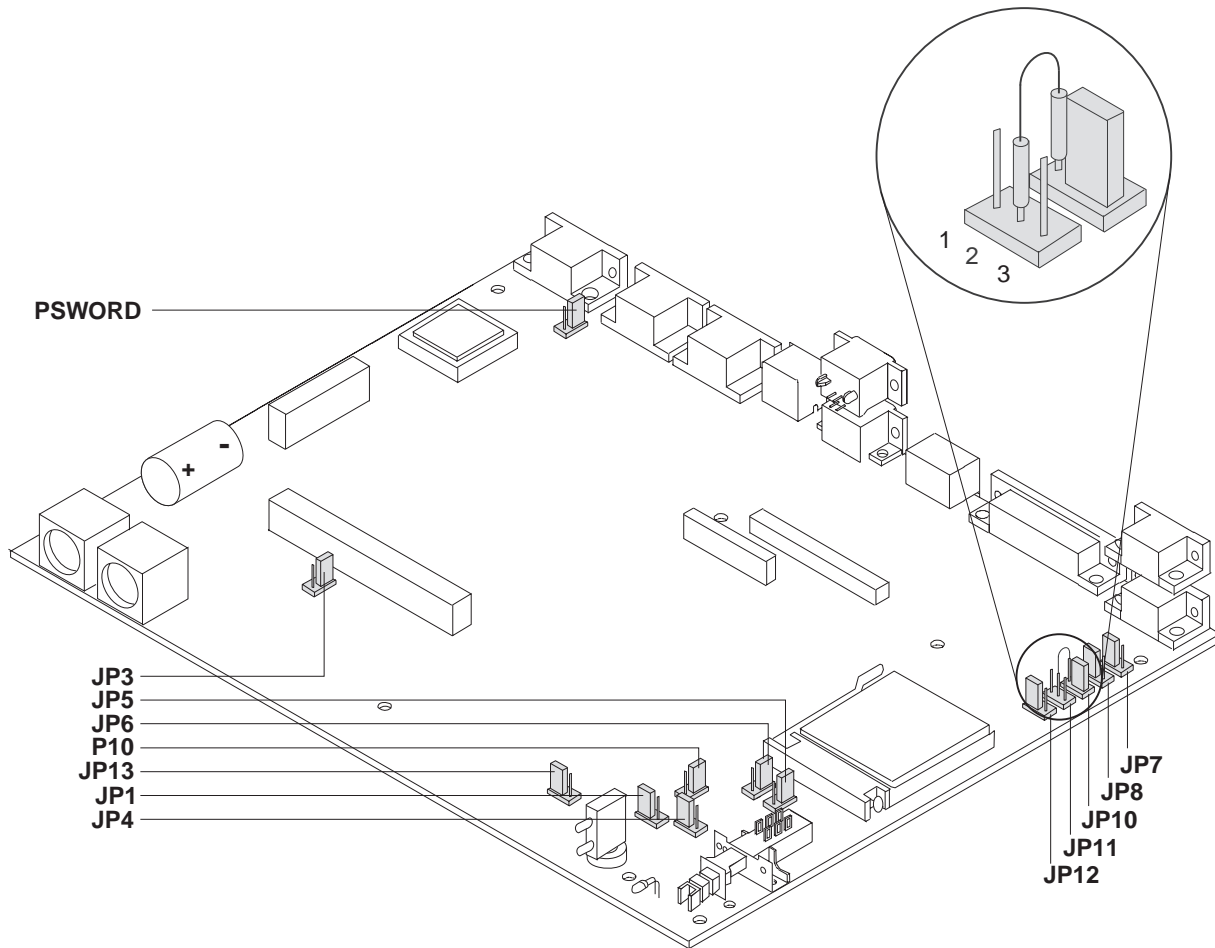

Figure 3-43. System Board Jumper Locations
- b. Leave the password and the service level update jumpers in the default positions. See Figure 3-43 on page 3-45 and Table 3-11 on page 3-46.
Figure 3-43 shows the system board jumper locations. See Table 3-11 and Table 3-12 on page 3-46 for jumper descriptions.
**Note:** The blowout in Figure 3-43 showing JP10 and JP11 is for Cyrix processors only.
| JP10  | Processor Type   | Pins 1-2, other 486 processorsPins 2-3, Cyrix pinout processorA special jumper is required when using a Cyrix pinout processor. The jumper is connected to JP10 pin 1 and JP11 pin 2. See Figure 3-43 on page 3-45. |